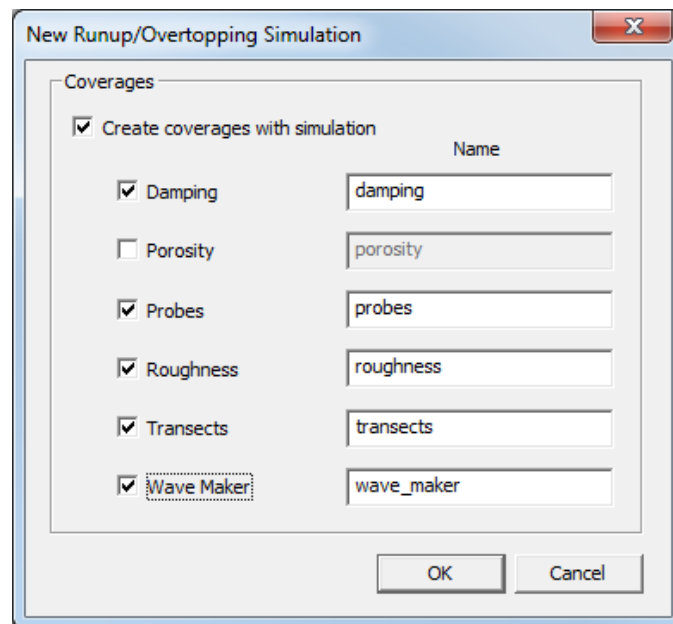

Figure 3 New Runup/Overtopping Simulation dialog
1. Right-click in a blank spot in the Project Explorer and select *New Simulation* | **BOUSS Runup/Overtopping** to bring up the *New Runup/Overtopping Simulation* dialog (Figure 3).
3. Turn on all options except *Porosity* (see Figure 3) and leave the default name for each option.